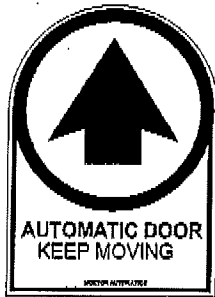
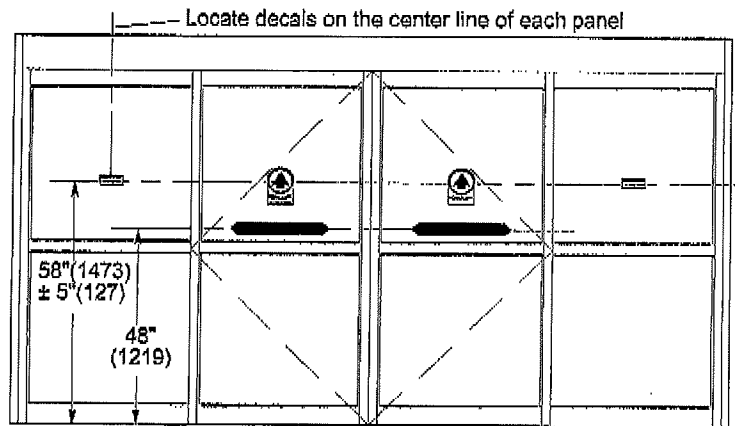

Figure 5
Figure 10
1. **Decals.** Door should have decals properly displayed. Each leaf should have a decal that includes the statements: "AUTOMATIC DOOR" (in letters 1/2 in. high, minimum) and "IN EMERGENCY-PUSH TO OPEN". (See Figures 5 through 9 for examples of some decals that may be used, See Figure 10 for application locations).